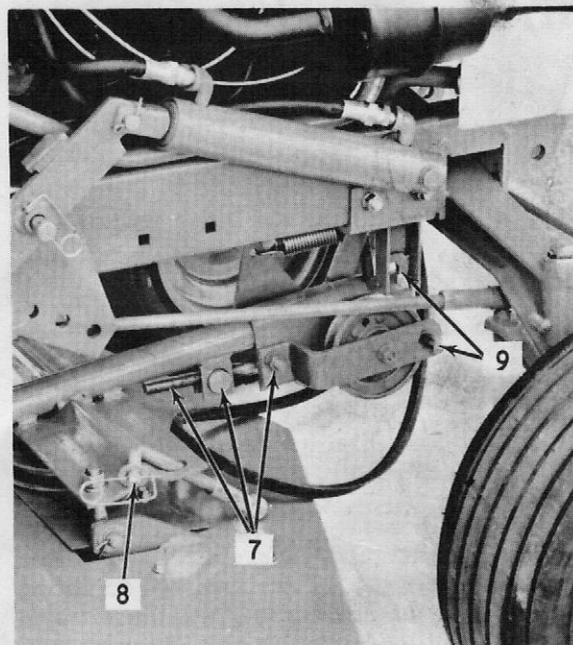

Figure 14. Connecting the Idler Assembly to Lift Frame and Front Brackets
7. Position the drive belt under the mower lift tube and to each side at the forward end. Apply a light coat of grease to the forward few inches of the lift frame tube. Remove the anchor pin from the threaded end of the adjusting crank and start the idler assembly on the lift frame tube as shown in Figure 14. Slip the anchor pin through the tabs on the lift frame and connect the adjusting crank as illustrated.